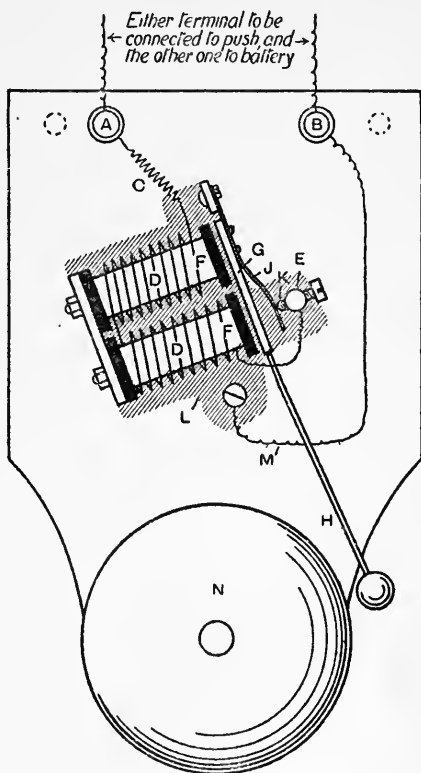

Fig. 11.—Diagram showing Principle and Connections of Electric Trembling Bell
**How an Electric Bell Works.**—Perhaps I had better make it plain how a bell works. It consists, as in Fig. 11, of an electro-magnet *D*, a contact maker and breaker *E K J*, an armature and hammer *G H*, and a gong *N*. The electro-magnet is two cores of soft iron wound with fine wire. Its poles *F* attract the armature and hammer only when current is passing through the coils. Immediately the armature is attracted and the gong in consequence struck by the hammer, the circuit is broken, current no longer flows through the coils, and the armature is released, only to re-establish the circuit again, ring the bell, again “unmake” the circuit, and so on. You can follow the passage of the current from terminal *A*, through spring *c* to coils *D*, then to the insulated contact pillar *E*, platinum contacts *K*, spring *J*, and thence by means of the metal frame *L* (indicated by the stipple lines) and through wire *M* to the terminal *B*. The above is an